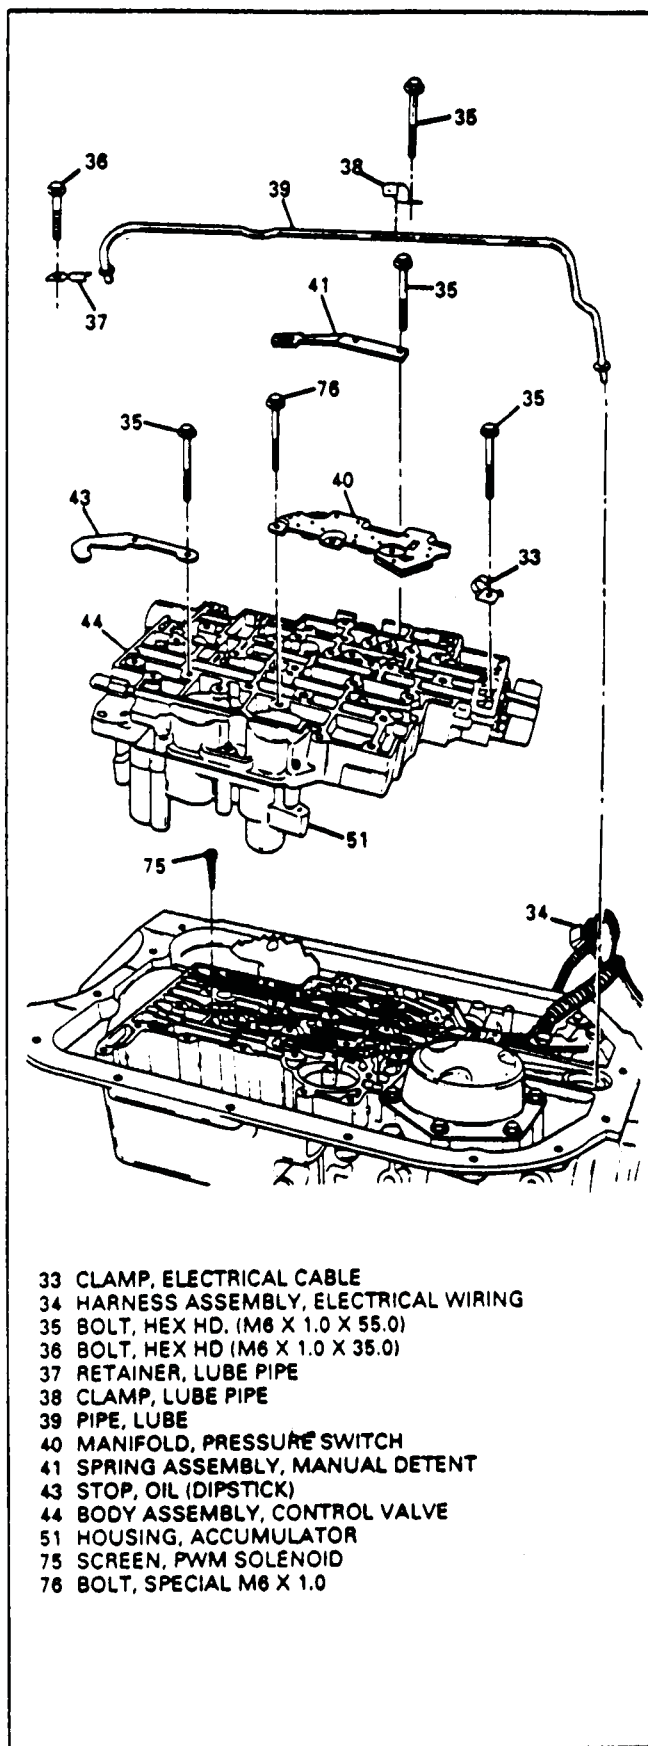

Figure 39
13. Remove the six 8mm retaining bolts for the pressure switch manifold assembly, and remove the switch assembly (See Figure 39).
16. Remove manual lever detent spring and roller assembly (See Figure 39).
17. Remove three wiring harness clips, and the fluid level indicator stop (43). (See Figure 39).
18. Remove lube pipe retainer, lube pipe, and lube pipe clamp (See Figure 39).
19. Remove the complete valve body assembly including the accumulator housing assembly (See Figure 39).